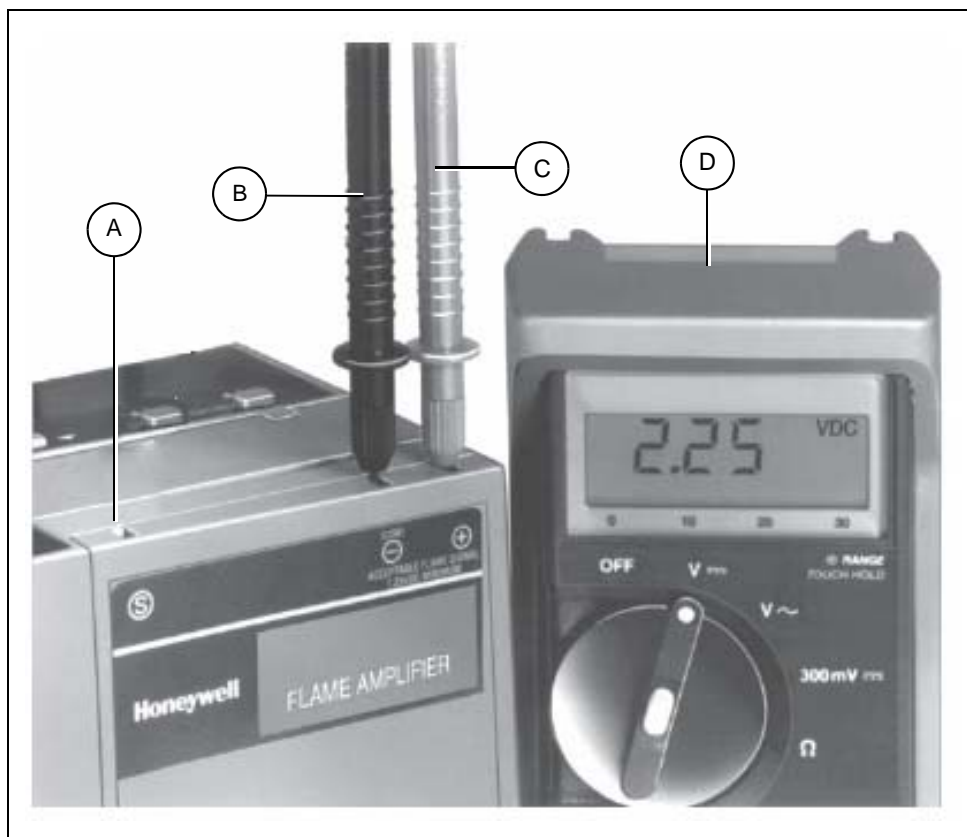

Figure 7C Honeywell Test Flame
- b. Flame signal can be checked at the Honeywell burner control, located in the main power panel, as shown in Figure 7C on Page 50.